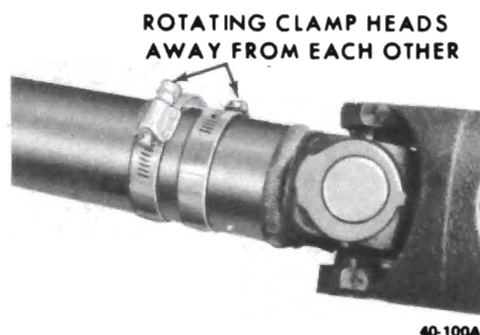

Figure 40-84 - Rotating Balance Hose Clamps
7. Position clamps at point of minimum unbalance. Rotate the clamp heads away from each other 45 degrees. (One each way from the point of minimum unbalance.) Run car and note if unbalance has improved. See Figure 40-84.